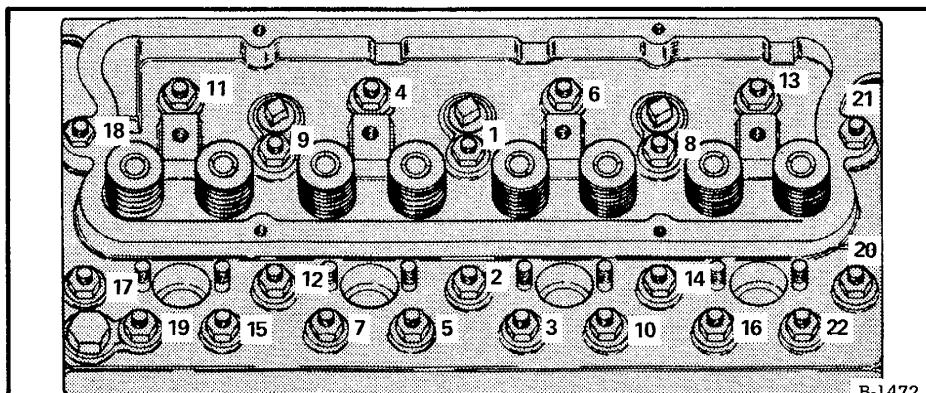

Fig. 47 Cylinder Head Tightening Order
2. Torque head screws to 85 ft-lbs. (See Figure 47 for proper sequence).